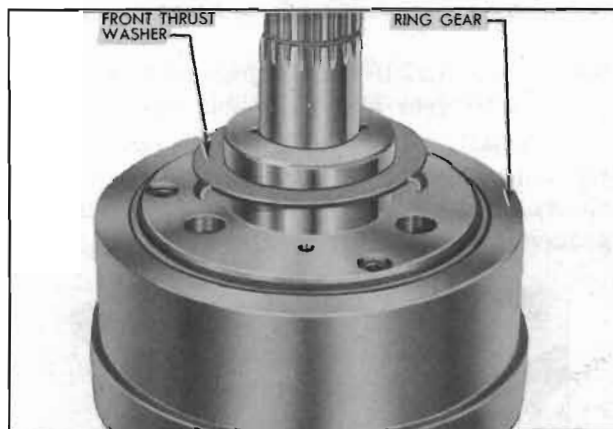

Figure 4-132—Installation of Front Thrust Washer
5. Install planet carrier front (steel) thrust washer on carrier with the three tangs engaged in holes in carrier. See figure 4-132.